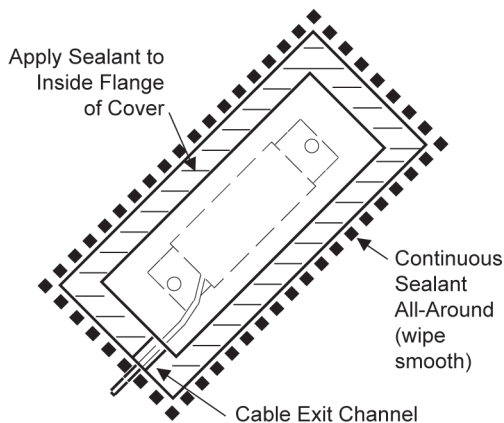

Figure 4-8. Environmental Cover.
11. See Figure 4-8. Apply a generous bead of sealant to the inside flange of the environmental cover. Add extra sealant to the cable exit channel.